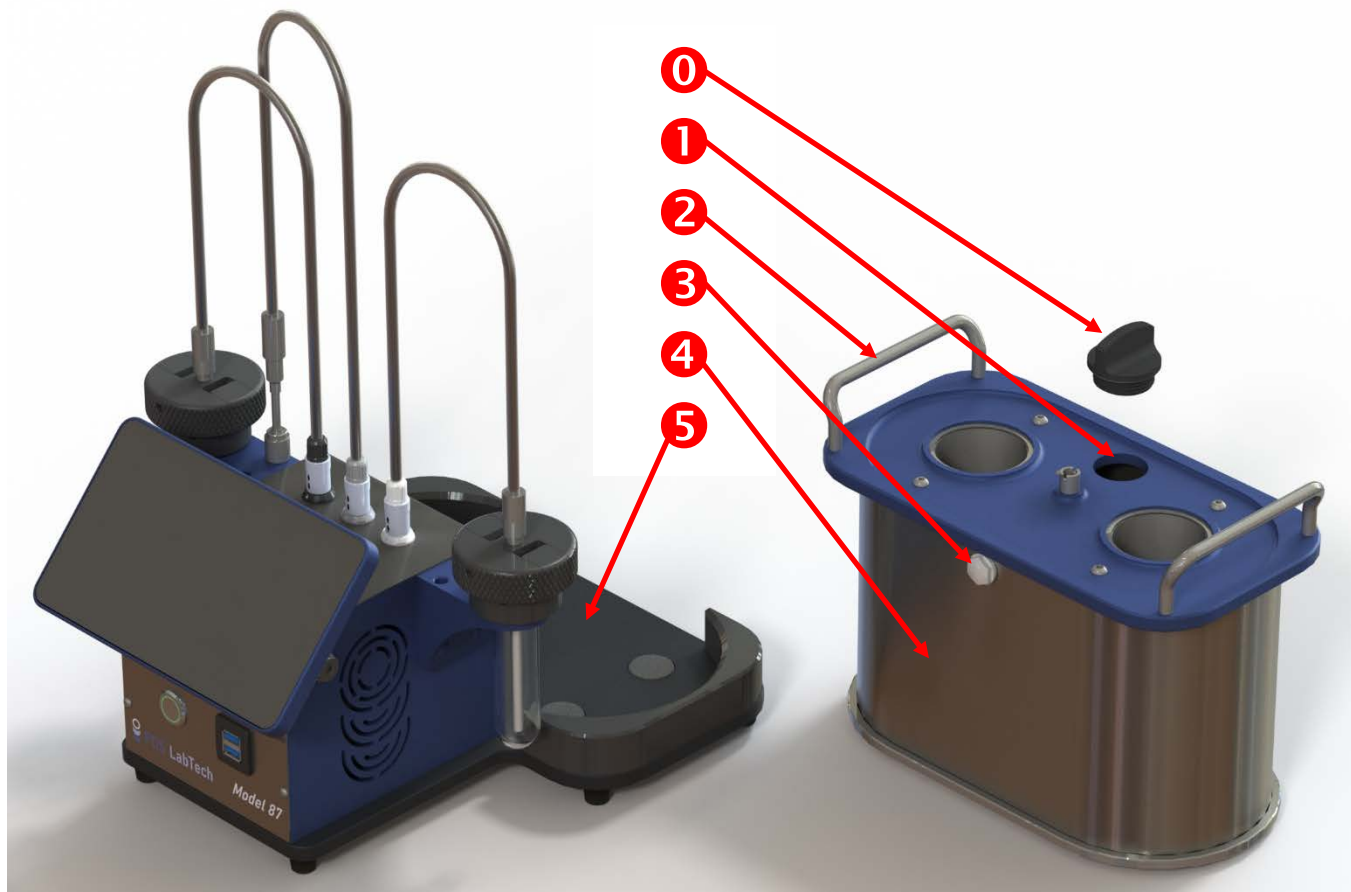

**Figure 1: PDS LabTech Model 87 Components**
**Setting up the Air/Water Bath:** Remove the Air/Water Bath from the instrument base and loosen the black Fill/Drain Cap (Item 2 on Figure 1) by turning it counter-clockwise. Fill the bath with tap water at room temperature between 22 °C and 26 °C as per ASTM D87. An algacide water additive, such as is suitable for use in a water humidifier, may be used. The wetted bath components are stainless steel and should not corrode. Fill the bath until the water level is in the center of the small Water Bath Sight Gage 3 in the front top of the bath.